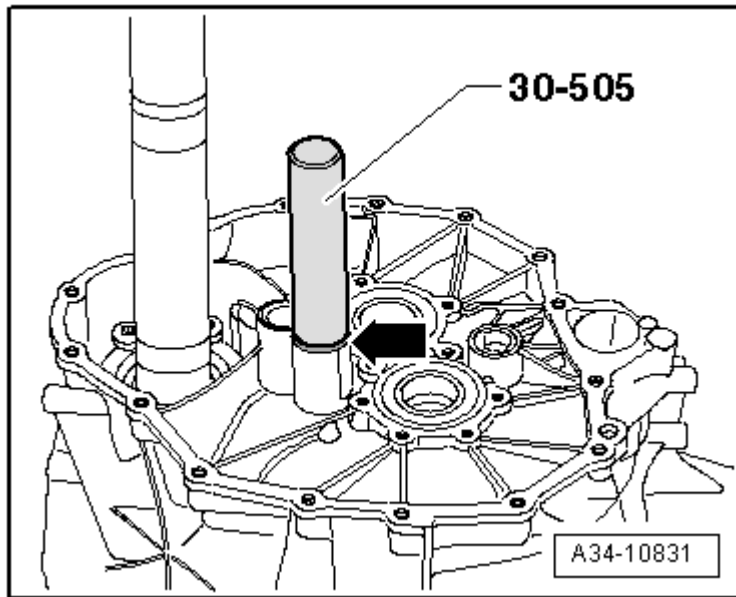

Fig. 73: Installing Bearing Bushing -Arrow- For Gearshift Rail / Shift Fork
- Installing, refer to **Fig. 73**